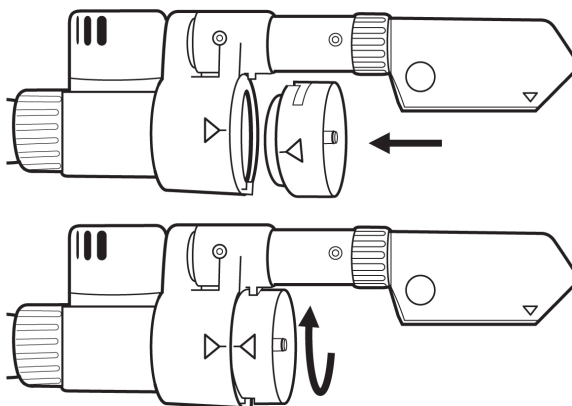

Fig. 2-19 Attaching the one-way valve
- Attach the one-way valve to the valve unit (aligning the arrows) as shown in Fig. 2-19 and turn it clockwise as far as possible.